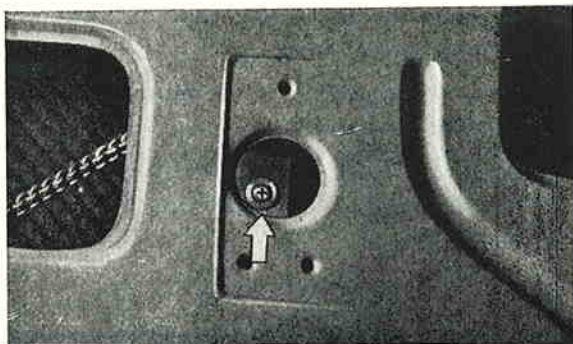

Fig. 32. Attaching screw for winding window guide rail
3. Unscrew the screws which hold the guide rail for the winding window, see Fig. 32. This only applies to the extended guide rail on the front doors.